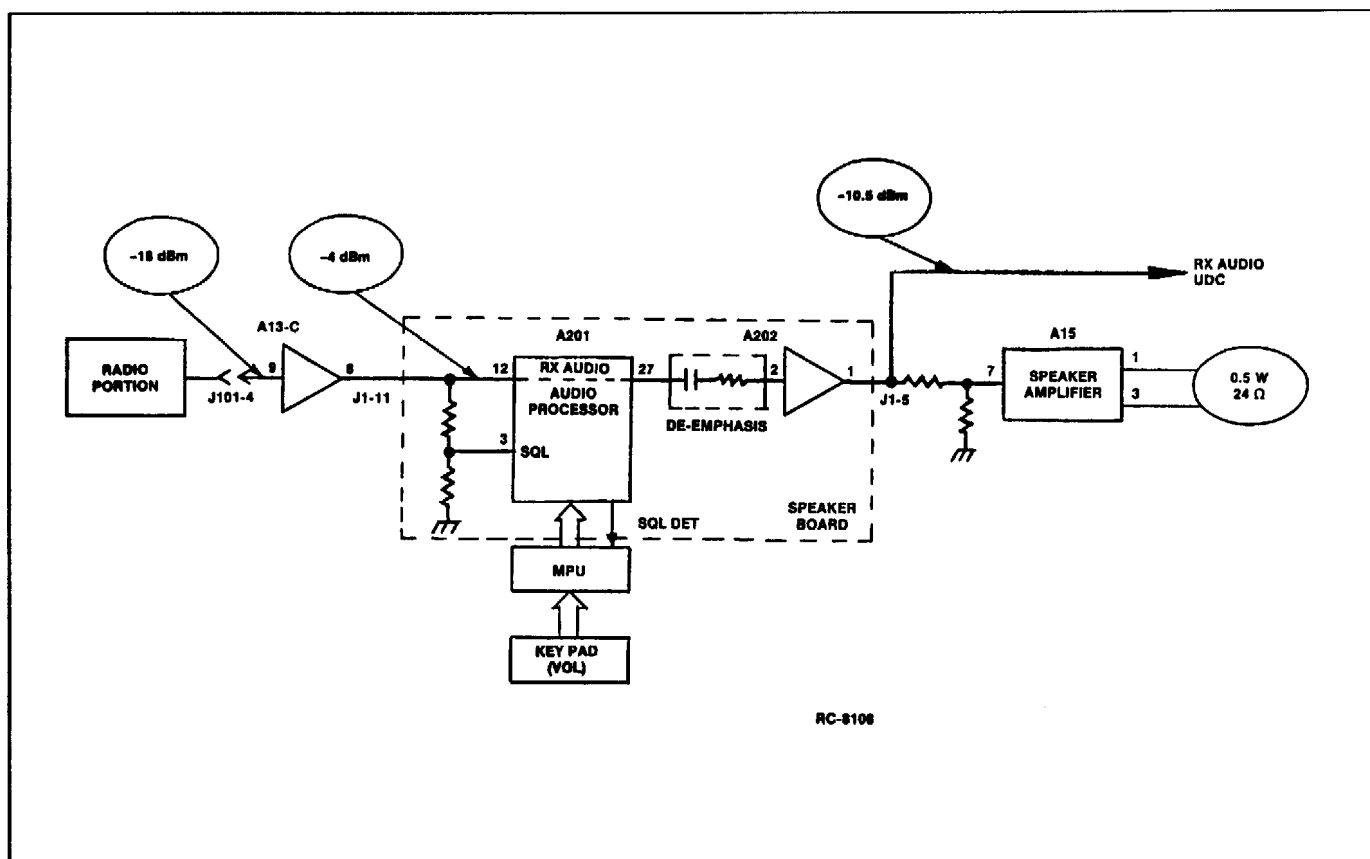

Figure 6 - Receive Audio Output
- b. System Board: The receive RF signal comes into P101, Pin 4 and is amplified by audio amplifier A13-C. The signal is then applied through a 300-3000 Hz BPF and a 46 dB volume level control. The signal is then amplified by audio amplifier A202-A and SPK amplifier A15 to drive the speaker. Typical levels needed to obtain a 1 kHz, 0.5 Watt receive rated audio output are shown in Figure 6.